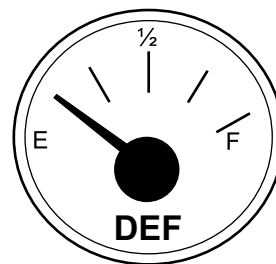

Figure 11. DEF Gauge
2. Read the DEF gauge (Figure 11) to the left of the switch.